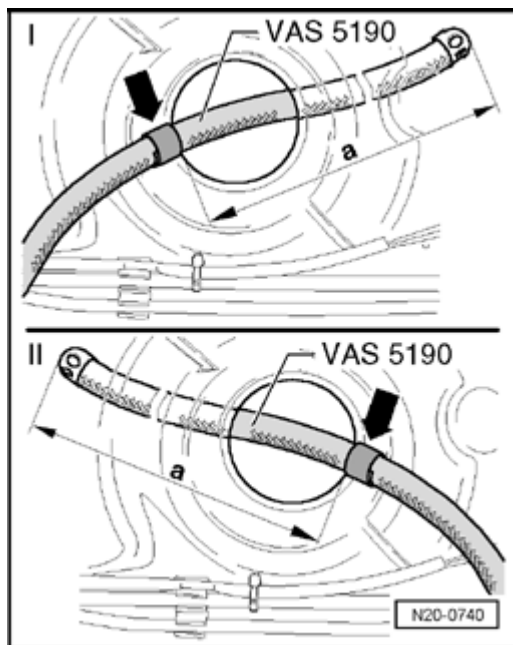

Fig. 206: Using Insulating Tape, Apply A Mark On Suction Hose
- Slide suction hose through sensor opening only as far into right or left fuel tank chamber until mark applied is aligned with threaded connector flange (see **Fig. 206**)